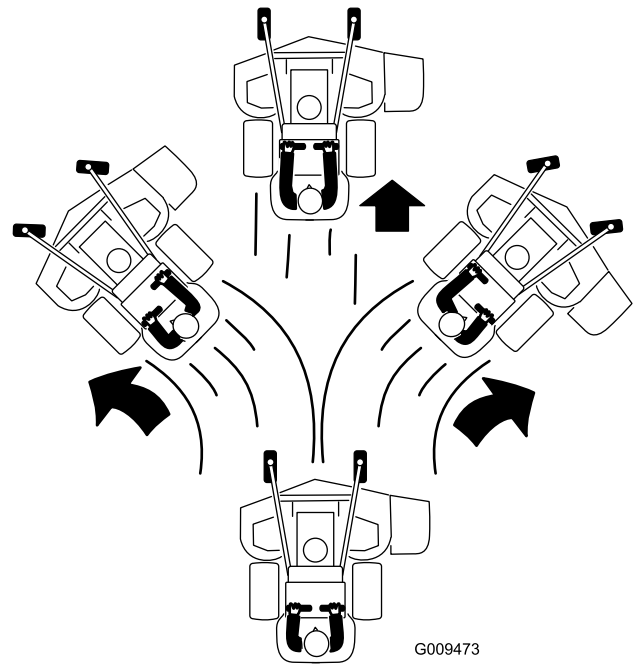

Figure 25
3. Slowly push the motion-control levers forward (Figure 25).